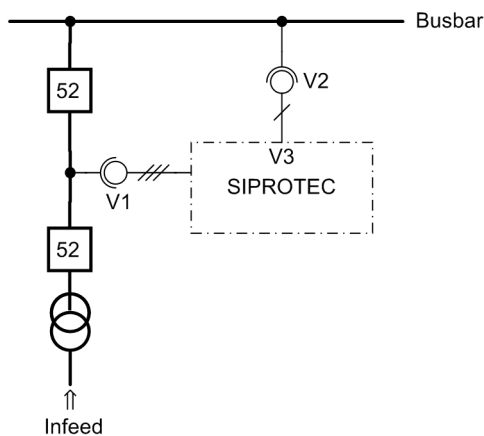

Figure 3-26 Measuring voltages for synchrocheck
- Then the circuit breaker is closed while the line isolator is open (see Figure 3-26). Thus, both voltage transformers receive the same voltage.